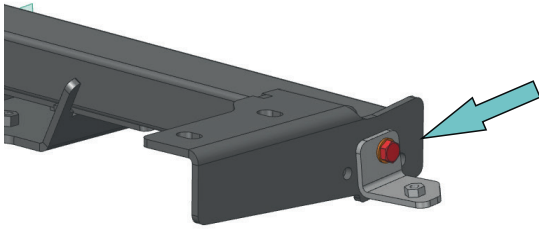

Fig. 13
13. Remove transport brackets before starting the installation. Unscrew bolts M12x1.25x70 and washers 12, preinstalled as travel hardware, in bumper bracket (item 2) (Fig. 13) **Set aside to reuse later on.**